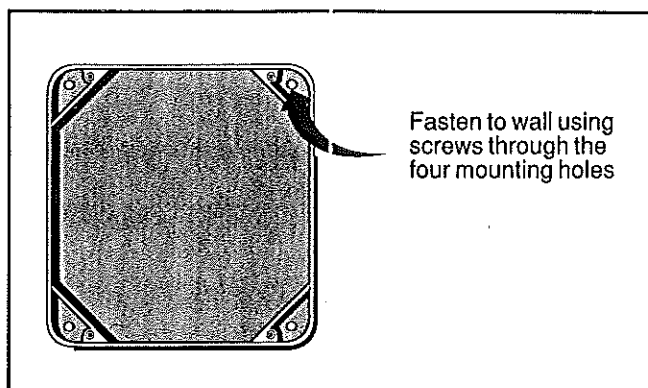

Figure 5. Fasten Base to Wall
2. Fasten the base of the unit to a wall or post with four screws. Be careful not to over tighten the screws as they could crack the plastic base. See Figure 5. Fasten Base to Wall.